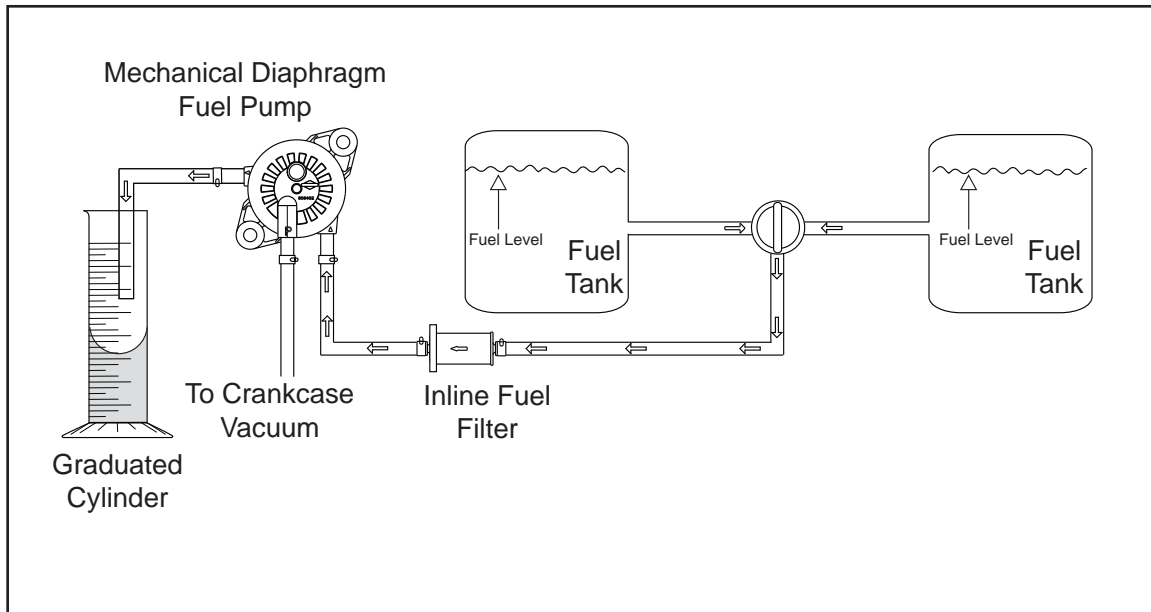

Figure 5-26 Perform Volumetric Test.
5. Attach suitable hose to fuel outlet port and direct free end into graduated cylinder. See Figure 5-26.